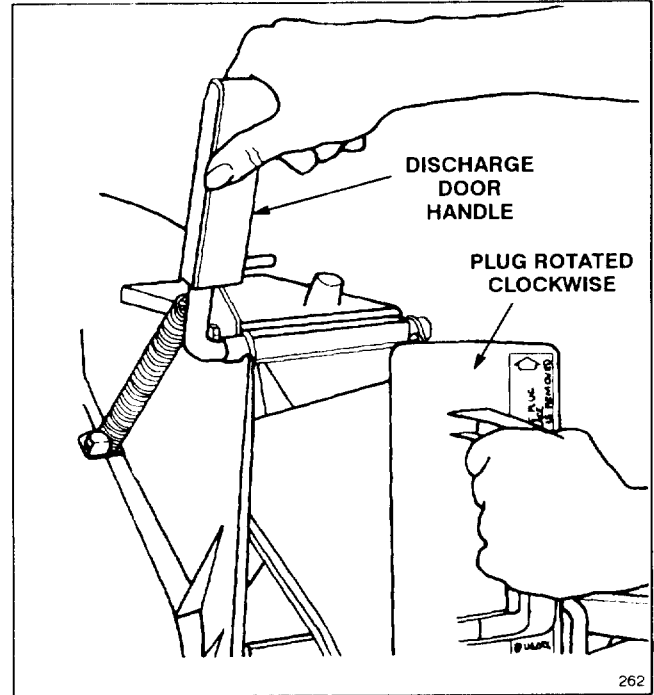

Figure 5
- Since the plug is slightly wider than the discharge tunnel opening, rotate the plug clockwise slightly while inserting it (Fig. 5). Make sure the arrow on the plug decal is pointing upwards.
- Open the discharge door by pulling forward on the handle and moving it rearwards (Fig. 5). Hold the